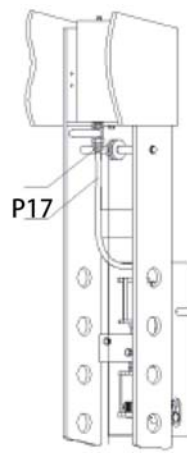

Figure 2
- 6) Then connect the oil hose (#P17) to 1/2" connector (Figure 2). Once the oil supply hose is connected, open the oil tank valve to allow the flow of oil and check for leaks.